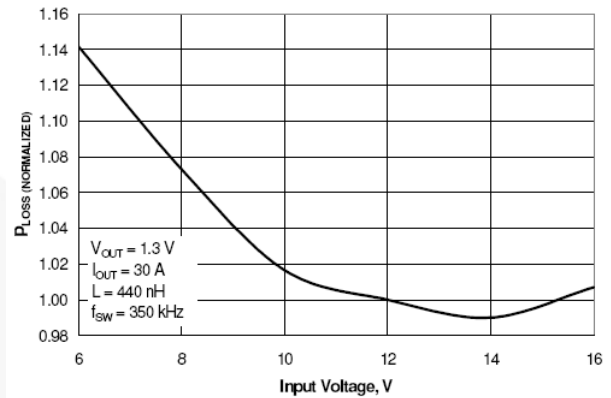

Figure 6. Normalized Module Ploss vs. Vin
- Ploss at 10 Vin. Note Figure 6: